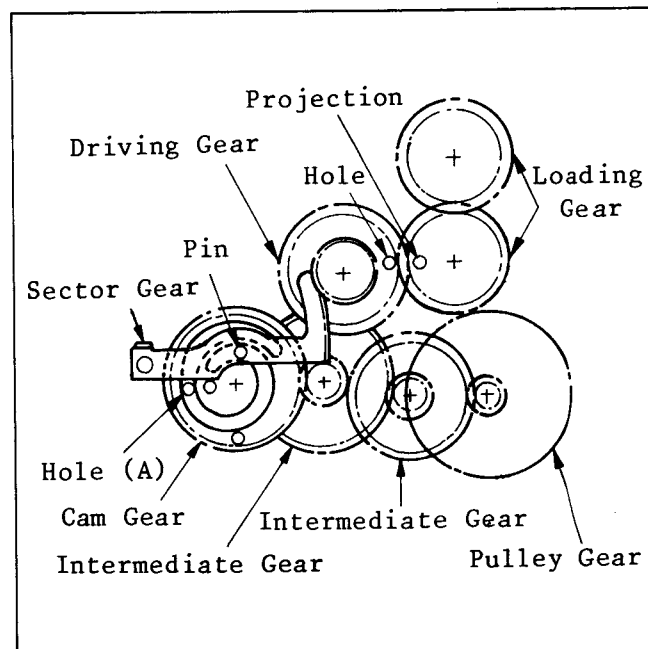

Fig. M33-5 Adj. Procedure
4. Install worm wheel stopper unit and support angle with 3 screws (A) as shown in Fig. M33-5.